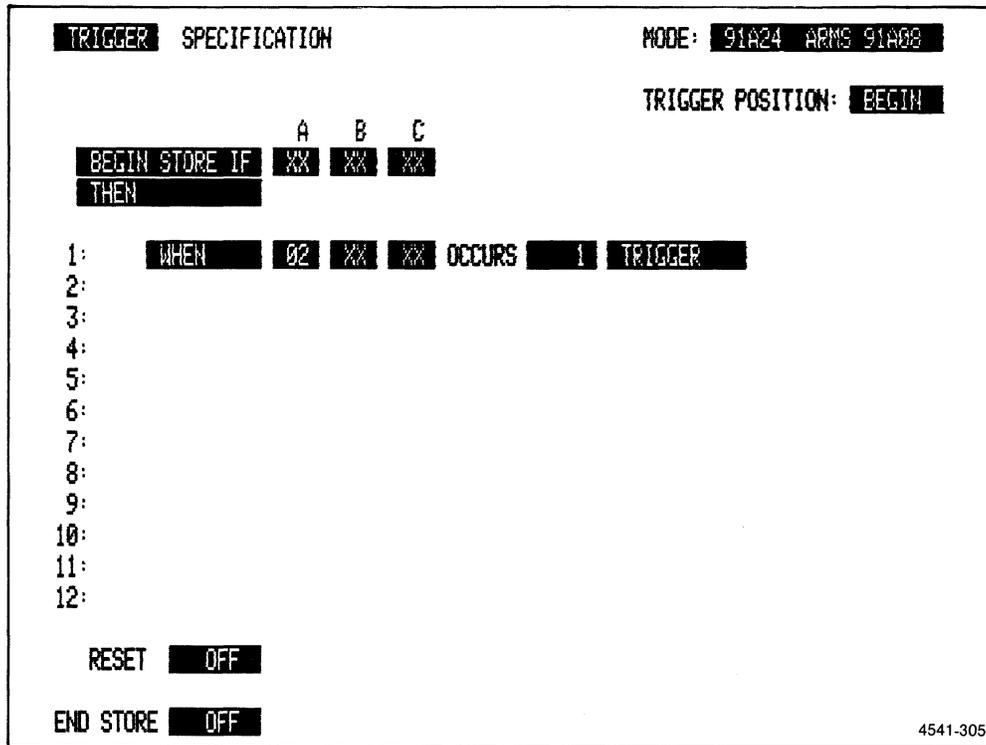

Figure 5-23. Trigger Specification menu setup for Functional Test 14.
2. Enter the Trigger Specification menu. Select 91A24 ARMS 91A08 mode. Change the menu to match Figure 5-23.